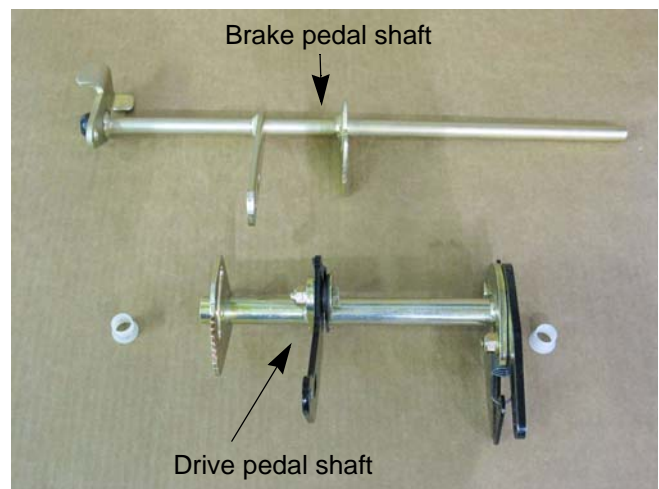

Figure 4.48
22. Slide the drive pedal shaft off of the brake pedal shaft. See Figure 4.48.